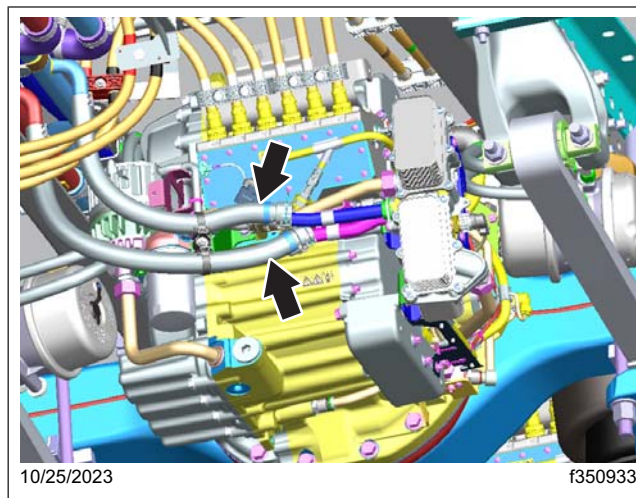

Fig. 18, Location of the Coolant Lines
21. Disconnect the coolant lines from the e-Axle, and let the fluid drain out. See Fig. 18.
68. Connect the coolant lines, shown in Fig. 18, (Page 17) to the e-Axle.